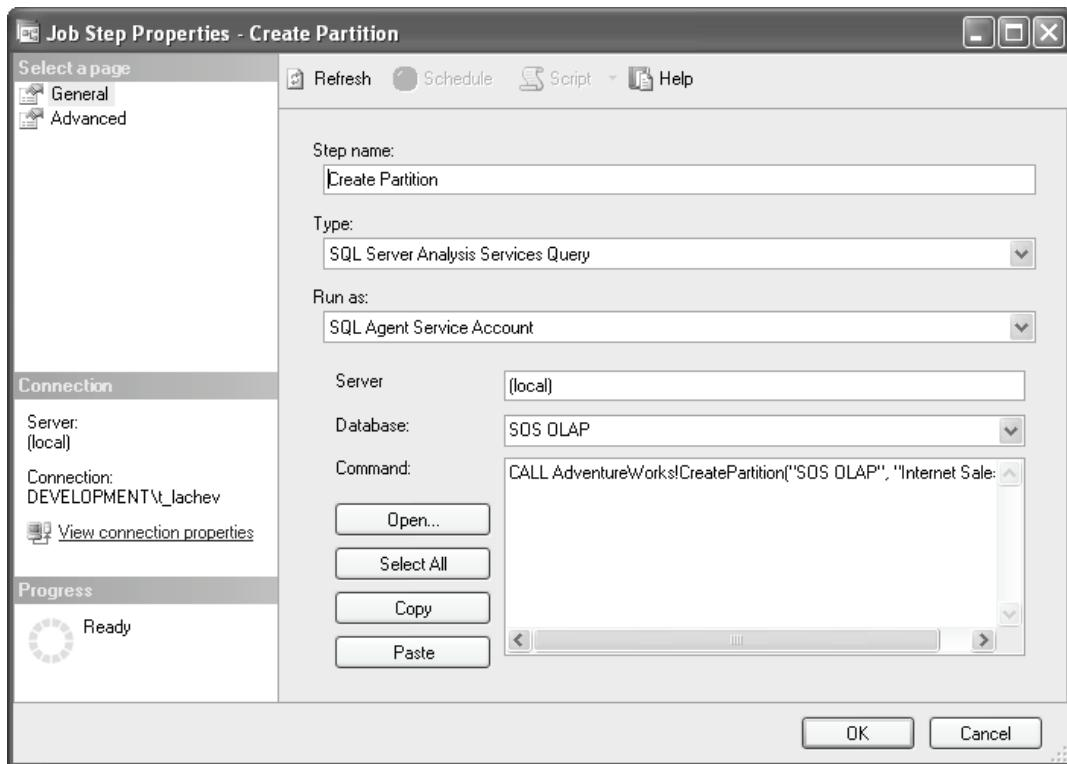

Figure 14.26 Use the CALL statement to execute SSAS maintenance stored procedures.
3. Create a single step for the *Create Partition* job and configure it as shown in Figure 14.26.